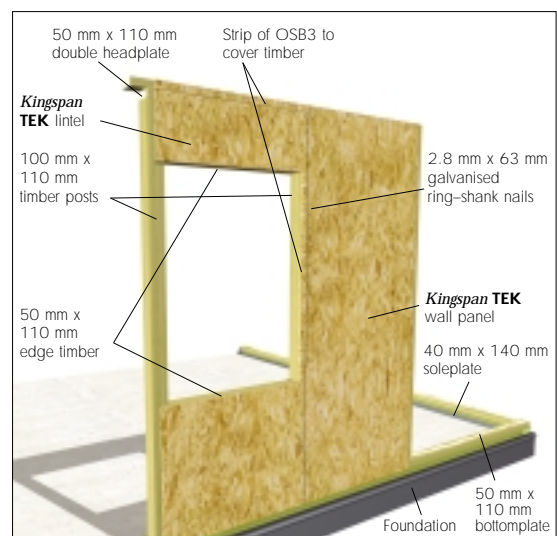

Figure 11a OPENING FOR WINDOW
**Kingspan TEK Building System** wall panels will arrive (unless specified otherwise) from the factory pre-cut and routed for window and door openings. The routed grooves will (unless specified otherwise) be 50 mm deep so that the 50 mm x 110 mm edge timbers can be fully inset around the whole window or door perimeter as illustrated in Figure 11a and b. These timbers need installing as soon as the wall panels have been erected to prevent excessive amounts of water standing in the rout.
Edge timbers should be installed as previously described, above both when the opening is enclosed within one **Kingspan TEK Building System** wall panel and also when it extends into any adjoining wall panels. With all openings for windows and doors, the edge timbers should be cut and installed into the routed channels to match the configuration illustrated in Figure 11a and b. This helps distribute the load carried by the edge timber that forms the timber headplate. All these timbers should be fixed in accordance with the fixing specification in Table 1, section 2.6.